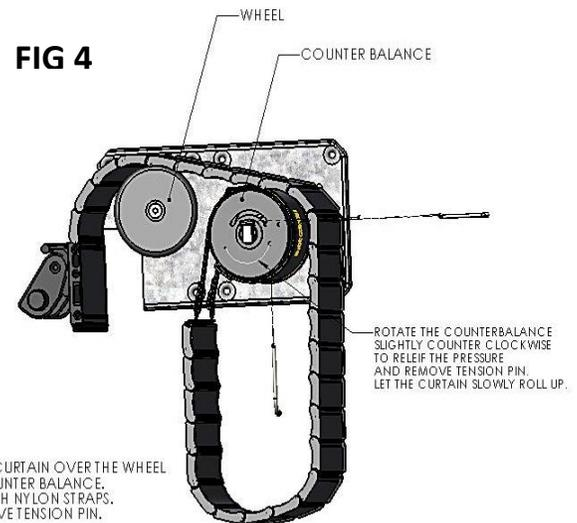

FIG 4
STEP 3: Install Curtain (See FIG. 4)